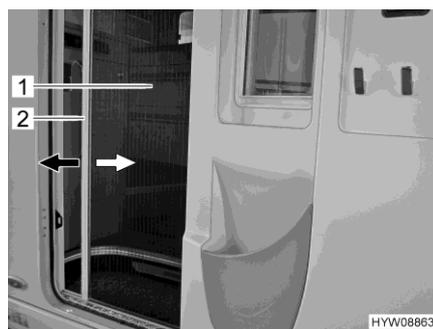

Fig. 56 Insect screen (conversion door)
- Hold holding bar (Fig. 56,2) with both hands and pull the insect screen (Fig. 56,1) evenly out of the door holder.
- Hold holding bar (Fig. 56,2) with both hands and push the insect screen (Fig. 56,1) back into the door holder applying slight pressure.